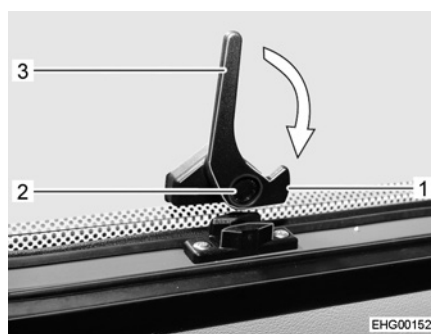

Fig. 26 Catch lever, at the bottom ("open" position)
- Press and hold the safety knob (Fig. 26,2) on the bottom catch lever (Fig. 26,3).
- Turn the bottom catch lever (Fig. 26,3) a quarter turn towards the window frame until the locking catch (Fig. 26,1) engages.